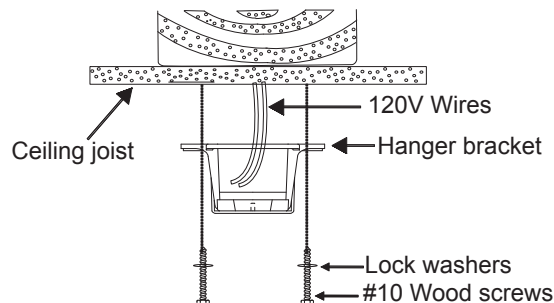

Fig. 7
Step 4A. Secure the mounting bracket directly to a joist from the building structure. Use only the appropriate wood screws and lock washers included with your fan. (Fig. 7)
CAUTION: The hanger bracket must be installed directly to the building joist using the two wood screws and washers provided. (Fig. 7)